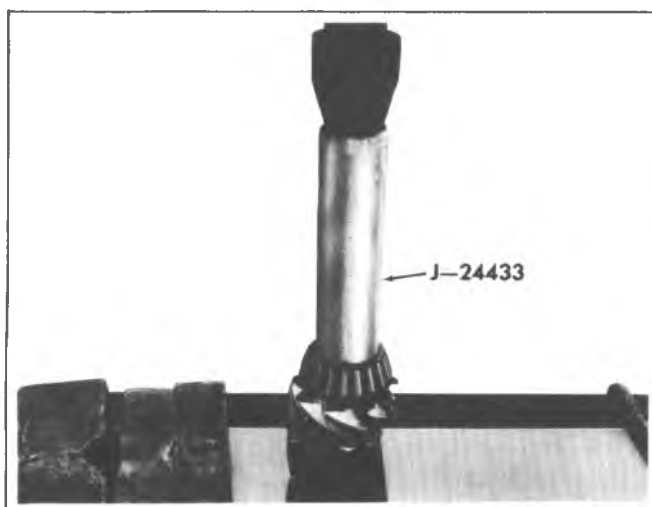

Fig. 13E-Installing Pinion Rear Bearing
2. Press pinion rear bearing onto drive pinion as shown in figure 13E, using J-24433.